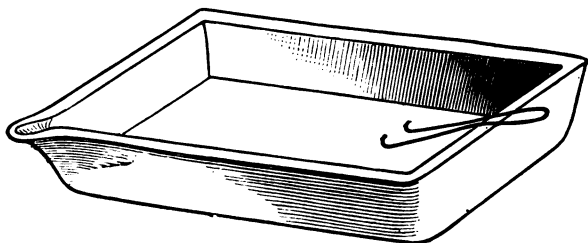

Fig. 5.
*Sensitizing in a dish or tray* (Fig. 5) has one great advantage, namely, a much smaller quantity of silver solu-